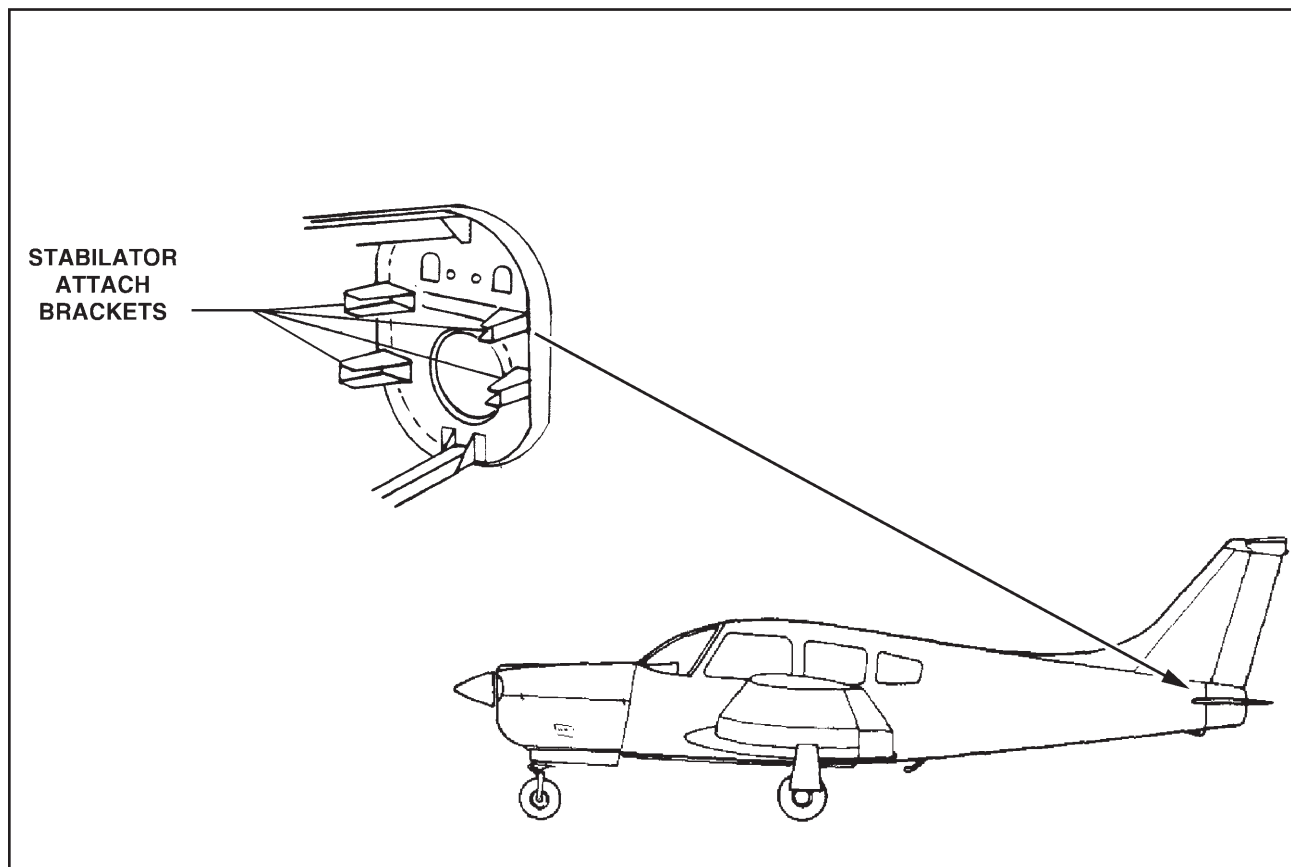

Figure 3-7
- (c) Inspect the steel attach fittings (4 places) for the stabilator and adjacent fuselage structure for rust and/or corrosion. (See Figure 3-7.)